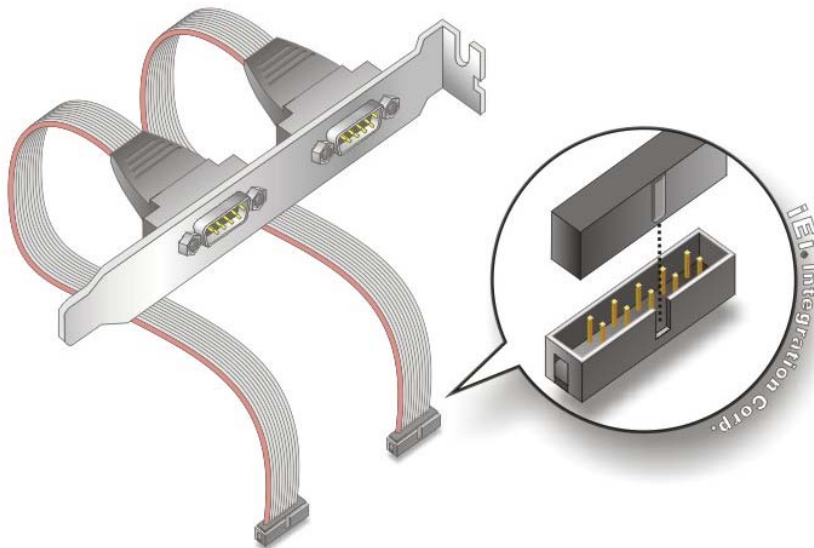

Figure 4-12: Dual RS-232 Cable Installation
Step 2: Insert the cable connectors. Insert one connector into each serial port box headers. See Figure 4-12. A key on the front of the cable connectors ensures the connector can only be installed in one direction.